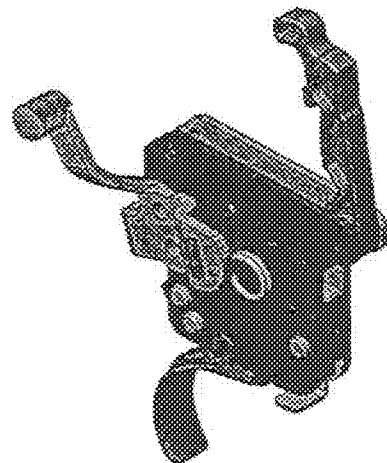

Figure 7
7. Place the front end of sear safety cam into the trigger housing as shown in Figure 7. - Insert a m7 bolt stop pin through the trigger housing and sear pivot hole to retain the sear safety cam in the trigger housing.